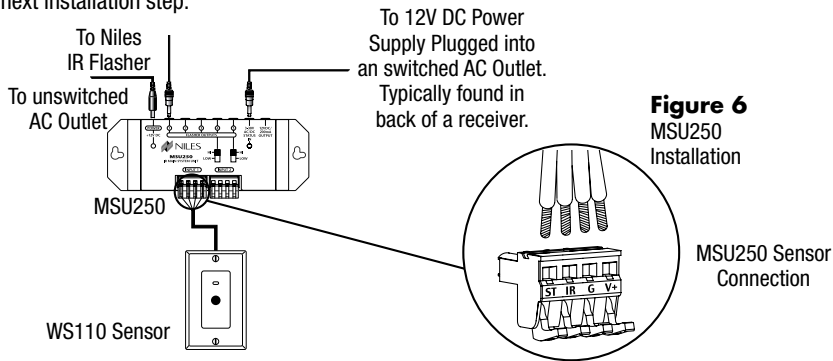

Figure 6
- C) Insert each wire into the appropriate hole on the removable connector plug (Figure 6), and snap the locking tab down*